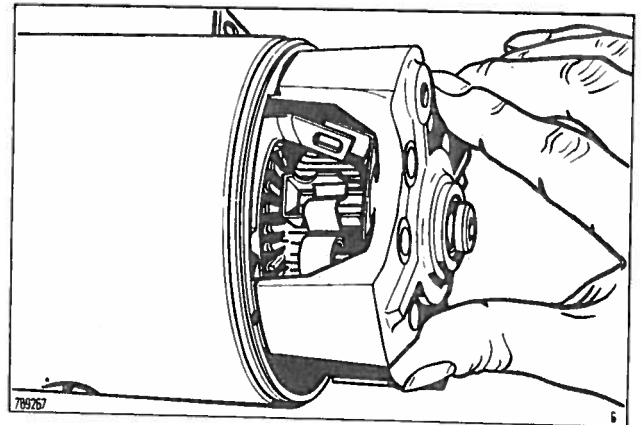

Fig. 95 Fitment of commutator end plate
6. Fit the commutator end plate complete with a new pair of earthed brushes Fig. 95, making sure that the end plate location groove aligns with the yoke pip. Ensure that the field coil terminals line up with the insulated brush screw holes. Fit the new insulated brushes.